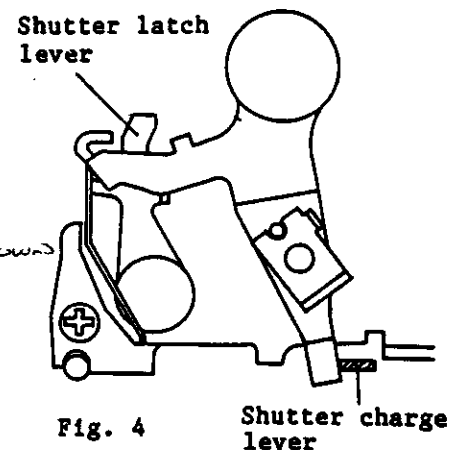

Fig. 4
- (2) Move shutter set lever toward the bayonet side (See Fig. 4)